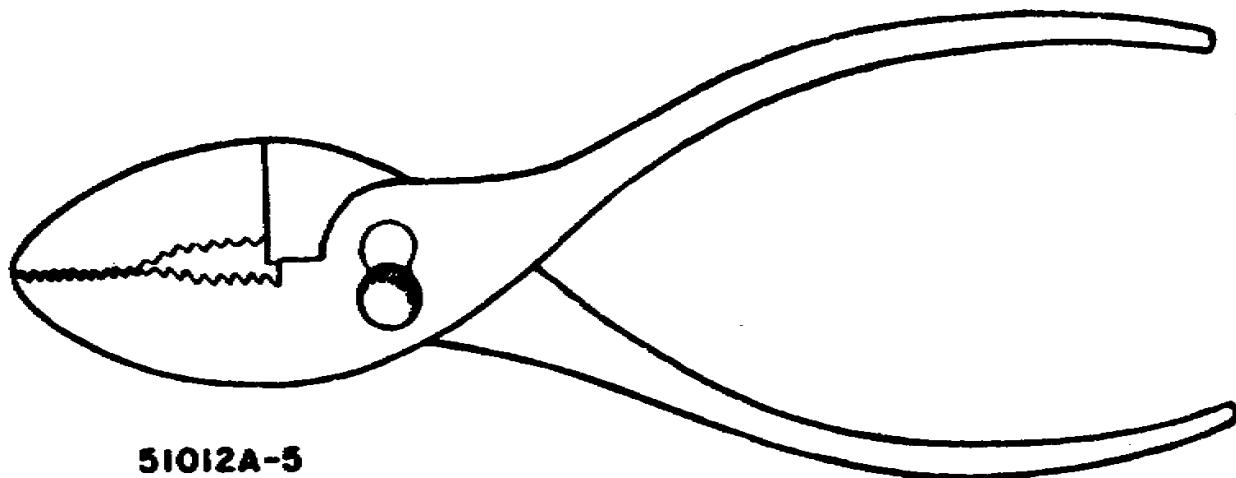

Figure 1. Slip-joint pliers.
(1) Slip-joint pliers (fig. 1). The slip-joint arrangement lets you open the jaws of such pliers wide enough to grasp a wide assortment of objects. That's why this type is so often found around the home.